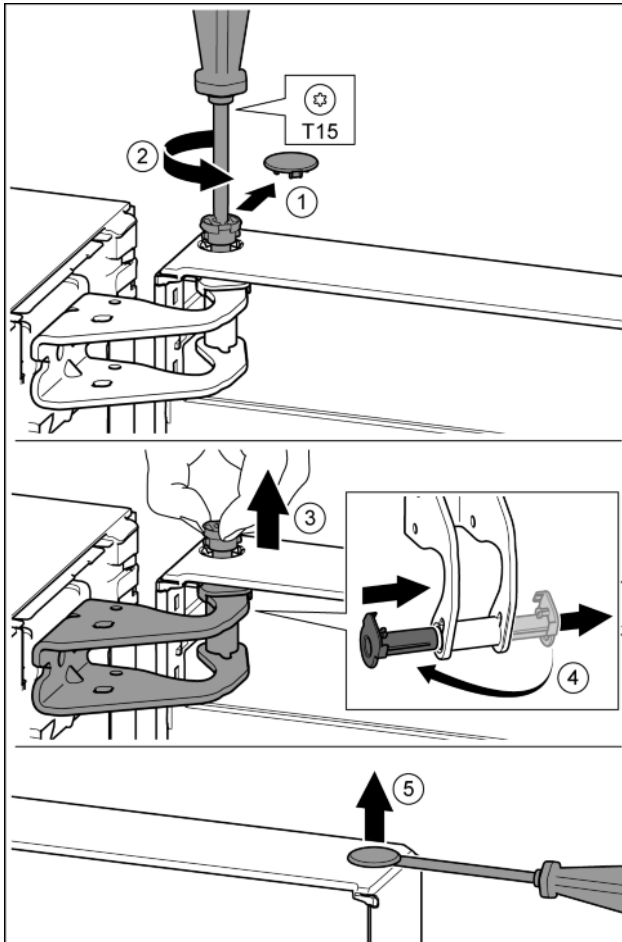

Fig. 7
- ▶ Carefully remove the protective cover. Fig. 7 (1)
- ▶ Undo the bolt a little with a T15 screwdriver. Fig. 7 (2)
- ▶ Hold the door and remove the bolts with your fingers. Fig. 7 (3)
- ▶ Pull the bearing bush out of the guide. Insert from the other side and click into place. Fig. 7 (4)
- ▶ Carefully lift the plugs out of the door bearing bush with a slotted screwdriver and remove. Fig. 7 (5)